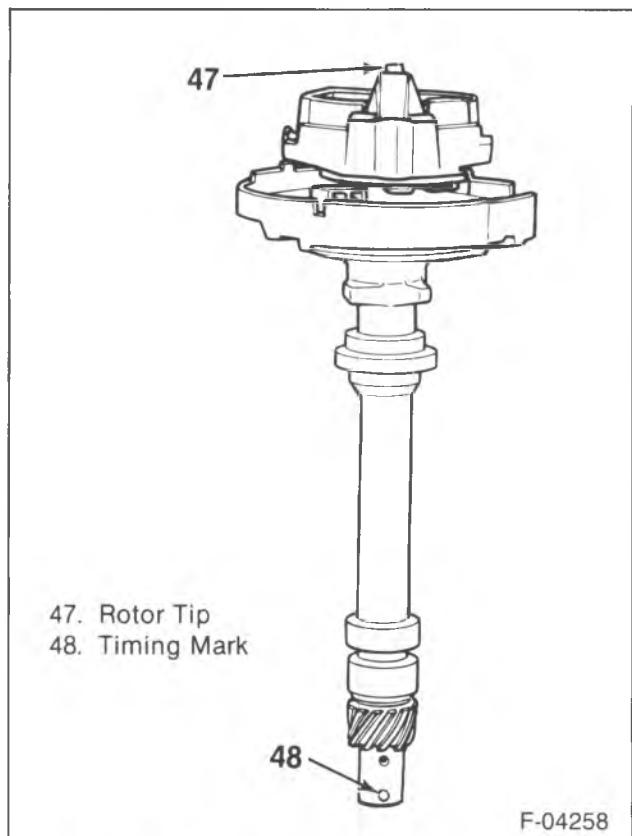

Figure 74—Timing Mark and Rotor Alignment
- Align the timing mark (48) on the driven gear with the rotor tip (47) (figure 74).